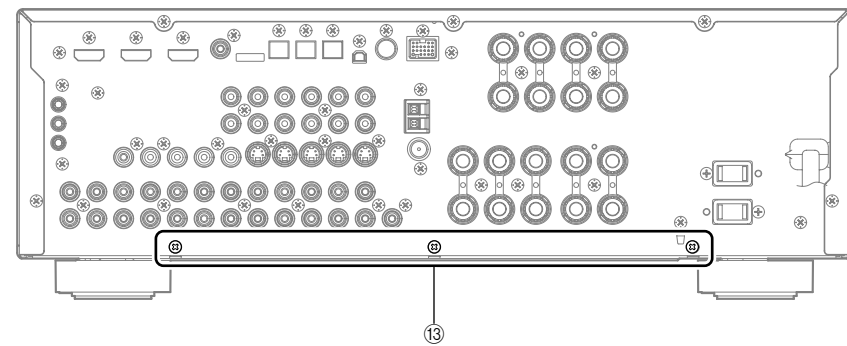

Fig. 6
- e. Remove 3 screws (13). (Fig. 6)